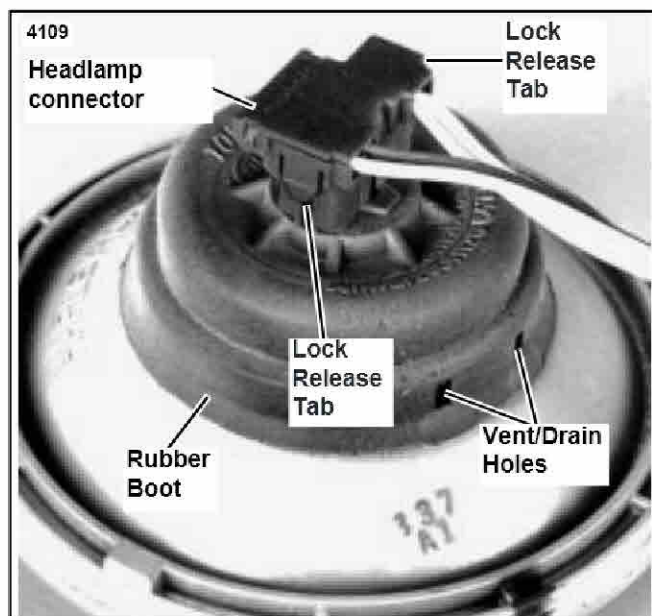

Figure 3. Remove Headlamp Connector From Bulb Assembly
4. See Figure 3. Firmly depress lock release tabs on left and right sides of 3-place headlamp connector. While holding both lock release tabs down, carefully pull headlamp connector from male spade terminals on bulb.
12. See Figure 3. With the vent/drain holes on rubber boot positioned at the bottom, push bulb into headlamp housing. Move bulb within housing, so that rubber molding is evenly distributed around the face of the bulb.